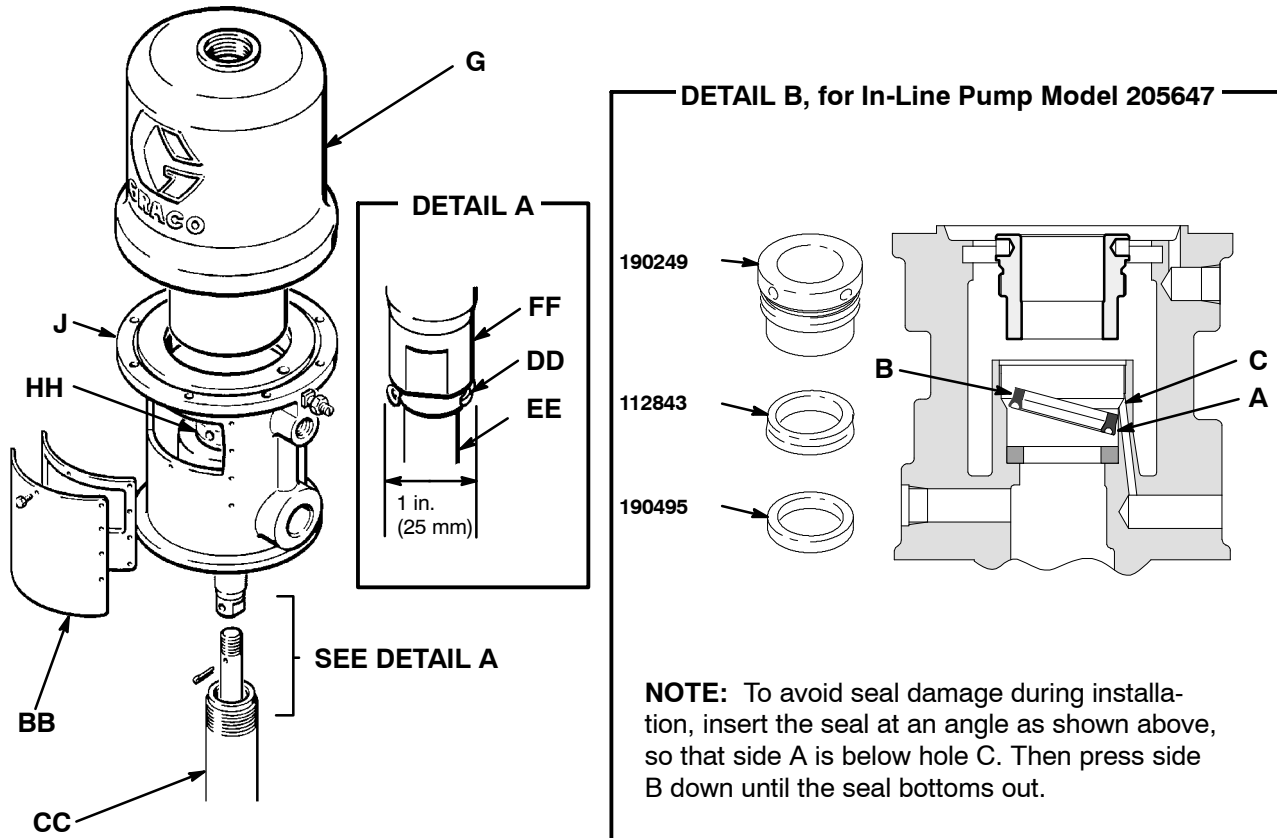

Fig. 4
NOTE: See Fig. 4 on page 12 and the **Parts Drawing** on page 14.
1. Clamp the pump in a vise and unscrew the displacement cylinder (CC) from the air motor base (J). Pull the displacement cylinder away from the air motor until the cotter pin (DD) which secures the displacement pump connecting rod to the air motor piston rod (FF) is visible. See Fig. 4.
2. Remove the cotter pin (DD) and unscrew the pump connecting rod (EE) from the air motor piston rod (FF). See Fig. 4. Remove the cylinder (G) from the air motor base (J) as described under **Disassembly** on page 8.
3. Remove one louvered air exhaust plate (BB) and unscrew the throat packing nut (HH), using a spanner wrench or a 0.22 in. (5.6 mm) diameter rod. See Fig. 4. Remove the spacer and packing from the base and packing nut. Clean the throat packing area in the base and the packing nut. Clean and inspect all parts and replace as necessary.
4. Lubricate the packings, piston rod and piston flange with a light waterproof grease. Reinstall the spacer and packing in the base and packing nut. Be sure the lips of the v-packings face down. See Detail B. Screw the packing nut loosely into the base. Carefully slide the piston rod down through the throat packing and lower the piston into the base. Tighten the packing nut securely. Reinstall the plate (BB) and cylinder (G). Reassemble the air motor to the displacement pump.
When reinstalling cotter pin (DD), **always** spread and flatten the pin (both the head and prongs) around the rod to within a 1 in. (25 mm) total diameter. See Detail A of Fig. 4.
See Fig. 4 on page 12 and the **Parts Drawing** on page 16.
3. Remove one louvered air exhaust plate (BB) and unscrew the throat packing nut (HH), using a spanner wrench or a 0.22 in. (5.6 mm) diameter rod. See Fig. 4.
9. Reinstall the spacer and packing in the base and packing nut (45†). Screw the packing nut into the base, and tighten it securely. Carefully slide the piston rod (FF) down through the throat packing, and lower the piston into the base. Reinstall the plate (BB) and cylinder (G). Reassemble the air motor to the displacement pump.
10. Torque the outlet adapter (42) to 45 to 55 ft-lb (61 to 75 N-m).